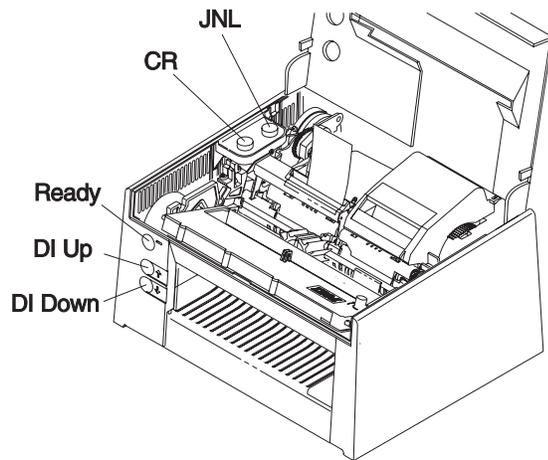

Figure 6-19. Printer Buttons
- Press the JNL button. See Figure 6-19. The voltage should drop to less than +0.5 V DC.
- Switch power ON at the terminal and press the JNL button. See Figure 6-19 on page 6-29.